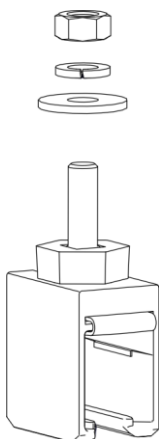

Fig. 57: Loosen the screw connection from the hanger clamp
- Loosen the screw connection with the hexagon nut and washers from the hanger clamp (see Fig. 57).